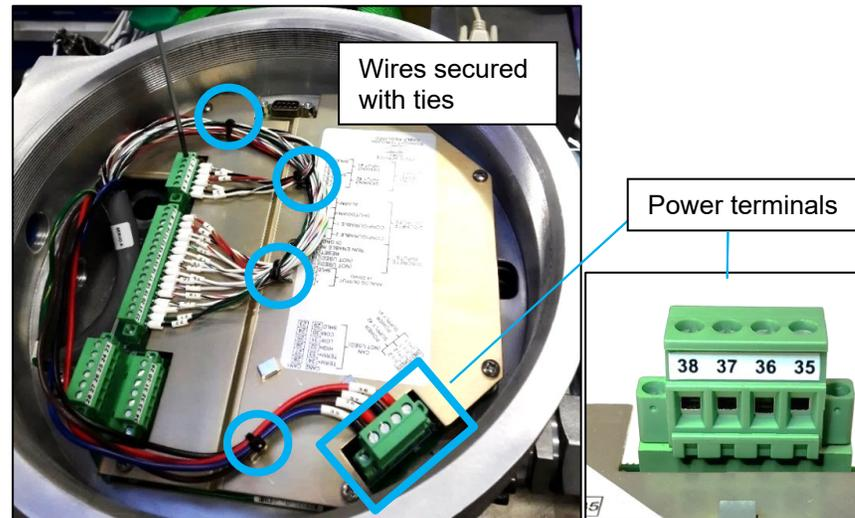

Figure 2-55. Power Connector Placement Inside VariStroke
28. Install power cables to VariStroke power terminals #35 to 38. Torque to 6.2 ± 0.9 LBIN (0.7 ± 0.1 Nm) (use slotted screwdriver; 3.5×0.6 mm tip size) (Figure 2-55).
29. Secure the installed cable in VariStroke connection compartment using cable ties. (Figure 2-55).